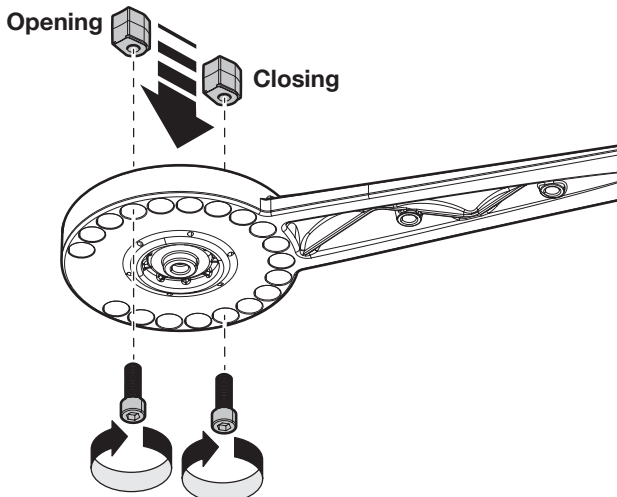

Fig. 15
04. Fix the limit switches on the motor arm **Fig. 15**; these must also be installed in the presence of mechanical stops on the ground.